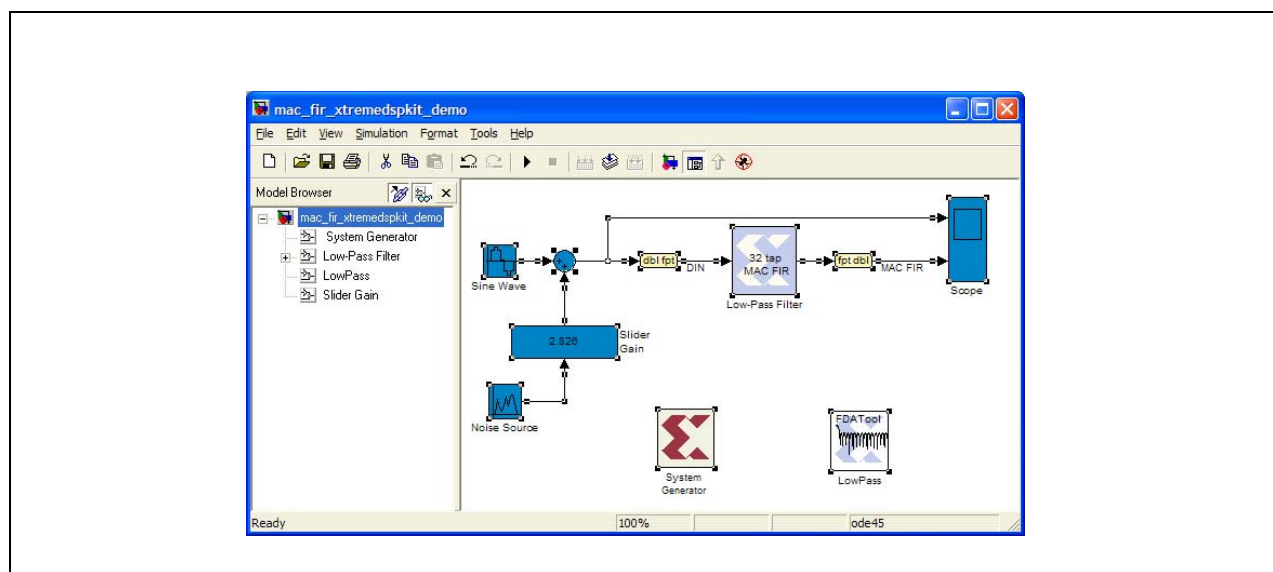

Figure 121: Simulink Model: 'mac_fir_xtremedsokit_demo.mdl'
2. Open mac_fir_xtremedsokit_demo.mdl model from the MATLAB console. This model represents a simple 32 tap MAC FIR with stimulus noise and sinewave sources as shown in **Figure 121 on page 200**.